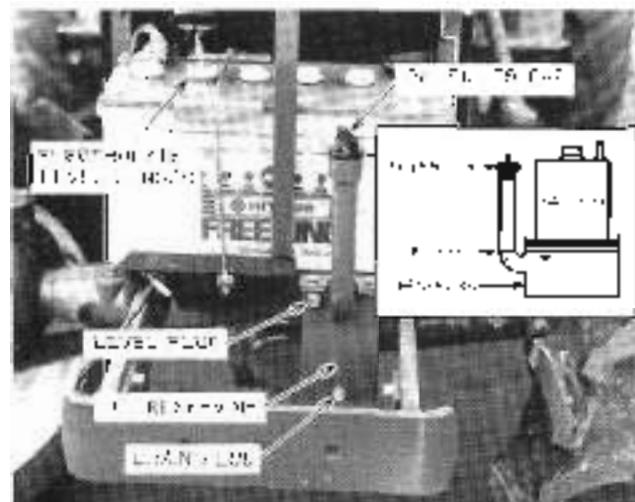

Figure 48 - Power Steering Reservoir and Oil Level
1. When the car is standing still, turn the wheel to the extreme toward position. Check the oil level. (Figure 48)